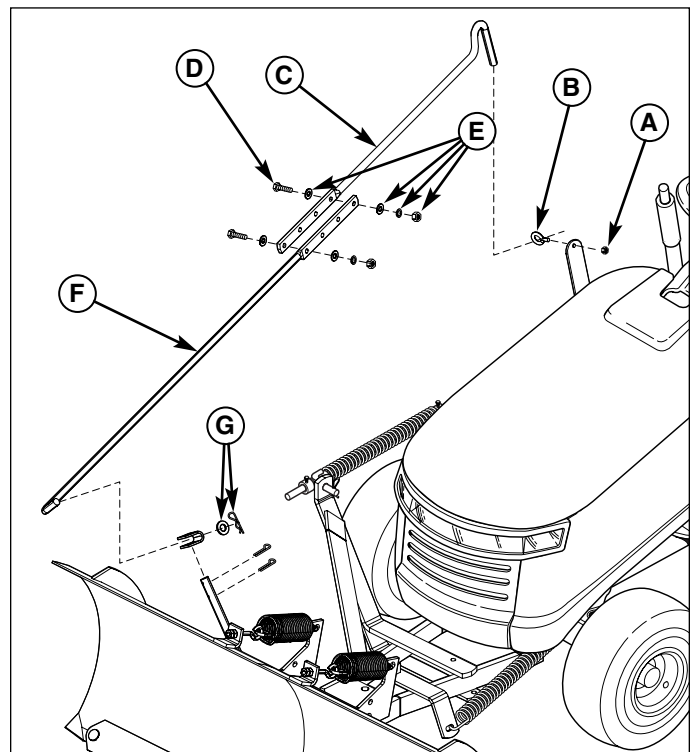

Figure 23. Assemble Control Rods
4. Connect the lower angling rod (F, Figure 23) to the dozer release lever using a hair pin clip and washer (G).
5. Insert the upper control rod (C) through the eyelet (B), and secure the eyelet to the support using a 1/4-20 nylock nut (A).
NOTE: It may be necessary to leave the eyelet nut (A, Figure 23) loose to prevent binding.